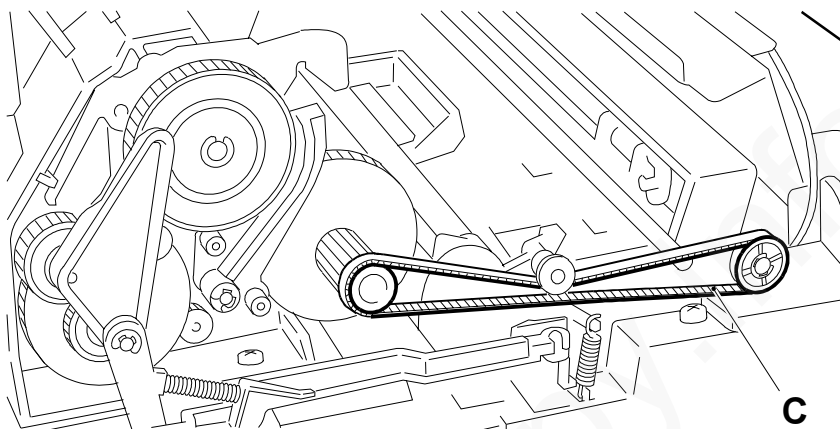

Fig. 7-38
- 3) Disconnect belt **C** from the driving rollers (Fig. 7-38):